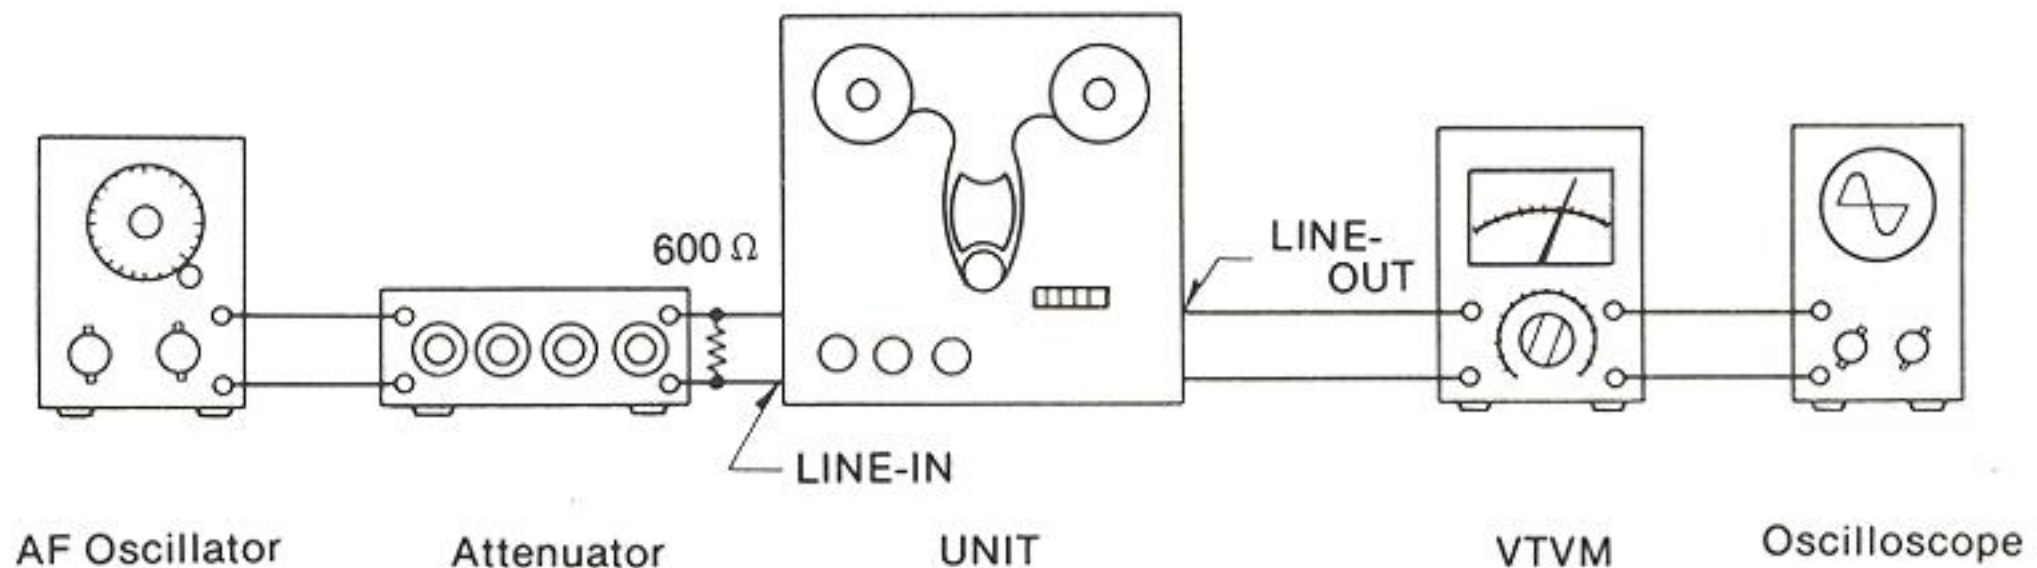
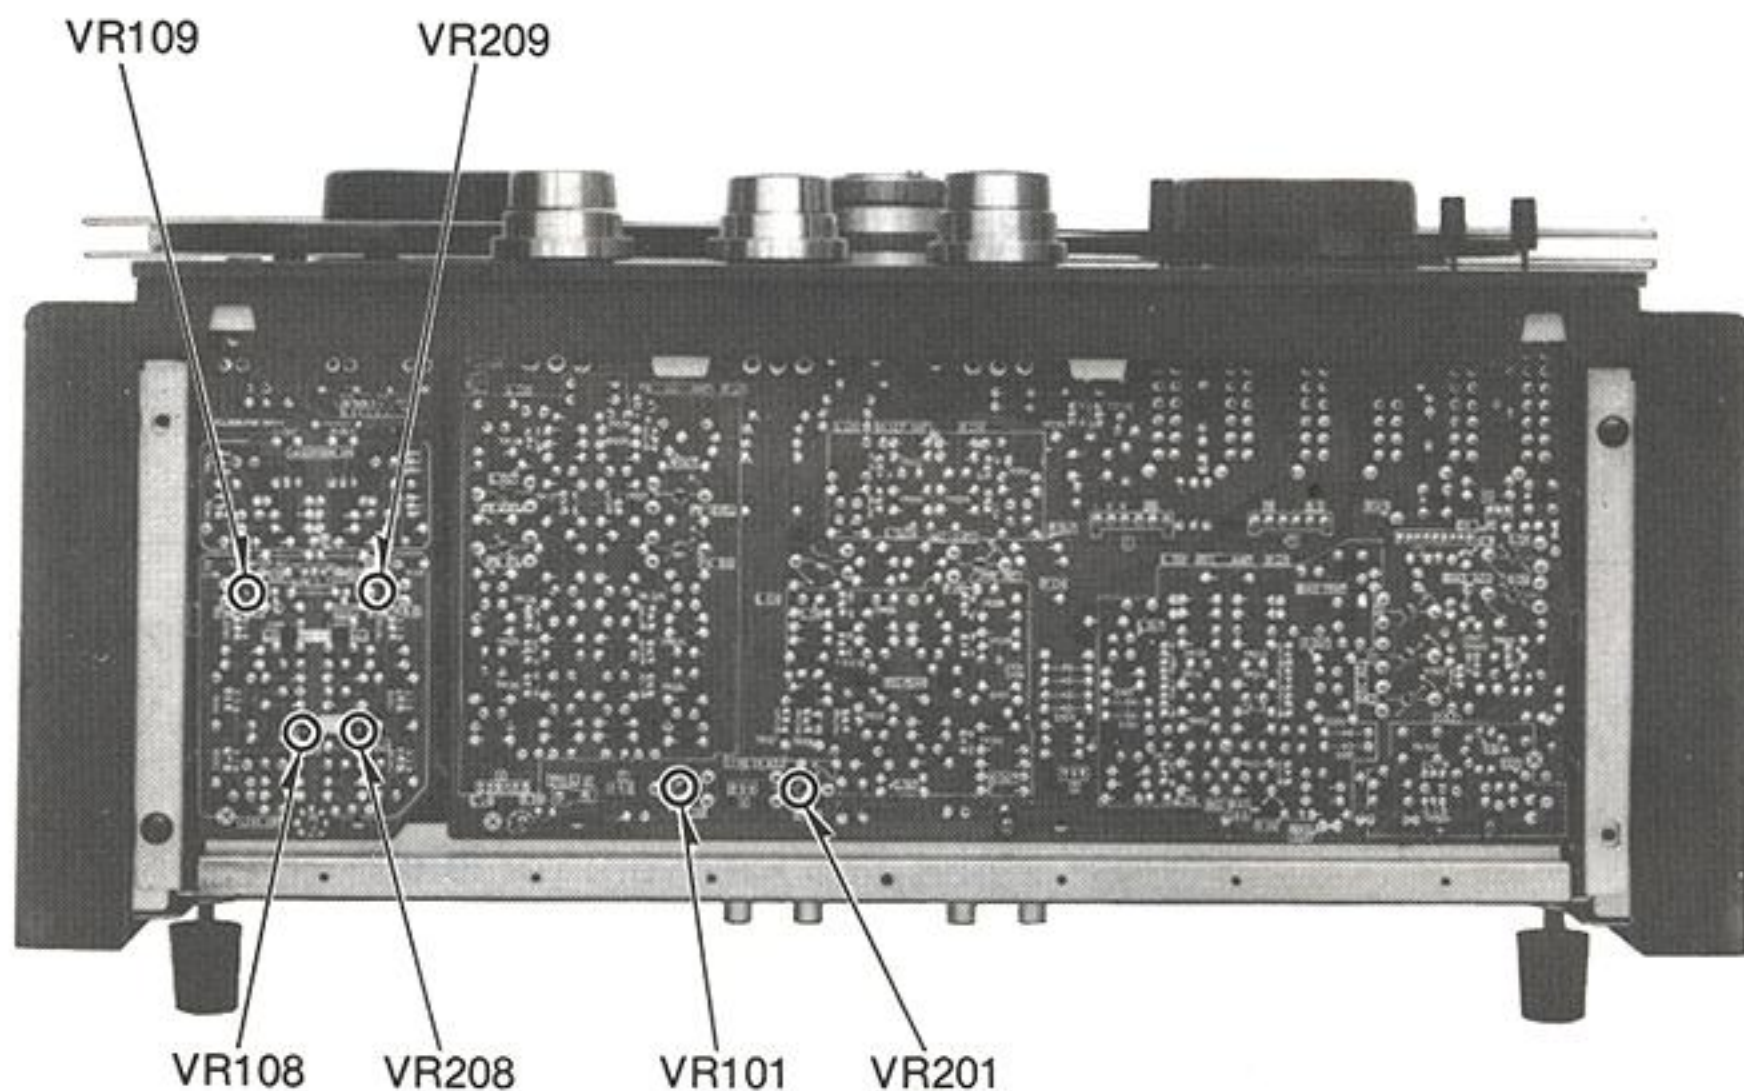

Fig. 36
Fig. 37
1. Test equipment connections are shown in fig. 36.
1. If the measured value is not within standard value, adjust the Line-in level adjustment VR, VR101 (L-CH) and VR201 (R-CH), (See fig. 37.)
| <p>Level meter for source monitor</p> | <ol style="list-style-type: none"> 1. Test equipment connections are shown in fig. 36. 2. Set the monitor selector to "SOURCE" position. 3. Set the output control to "8" position on front panel. 4. Supply 1 kHz signal ($-24\text{dB} \pm 3\text{dB}$) from AF oscillator, through ATT, to LINE-IN jacks. 5. Adjust ATT so that the output level at LINE-OUT jacks on VTVM becomes 0.55V. 6. Then confirm that the level meter indicates 0VU position. <p>[Adjustment]</p> <ol style="list-style-type: none"> 1. If the level meter does not indicate 0VU position in the above condition, adjust the level meter adjustment VR, VR108 (L-CH) and VR208 (R-CH). (See fig. 37.) <p>[Confirmation]</p> <ol style="list-style-type: none"> 1. Place unit into the above measurement condition. 2. Set the meter scale selector to "+6dB" position. 3. Confirm that the level meter indicates within $-3 \pm 1\text{VU}$ on "+3dB" scale. |
| <p>Level meter for tape monitor</p> | <ol style="list-style-type: none"> 1. Test equipment connections are shown in fig. 36. 2. Place unit in the same condition as for "Standard recording level adjustment." 3. Thread "open" blank test tape (QZZORA218EX). 4. Set the meter scale selector to "+3dB" position. 5. Set the monitor selector to "tape" position (both channels). 6. Set the recording mode selector to "ON" position (both channels). 7. Place unit into recording mode. 8. Then confirm that the level meter indicates 0VU. <p>[Adjustment]</p> <ol style="list-style-type: none"> 1. If the level meter does not indicate 0VU in the above condition, adjust the level meter adjustment VR, VR109 (L-CH) and VR209 (R-CH). (See fig. 37.) |
- * Measurement instrument connections are as shown in figure 36.